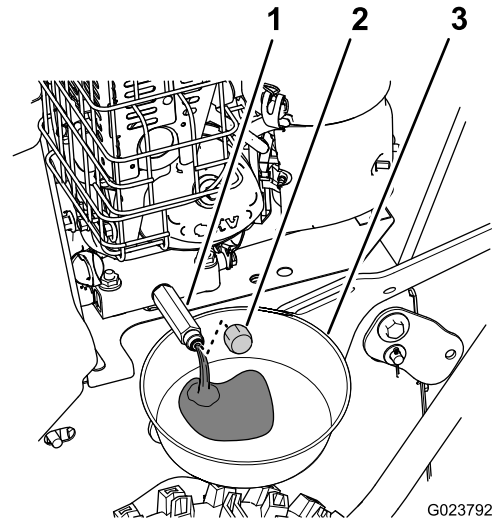

Figure 25
1. Place a pan under drain fitting and remove the oil-drain cap (Figure 25).